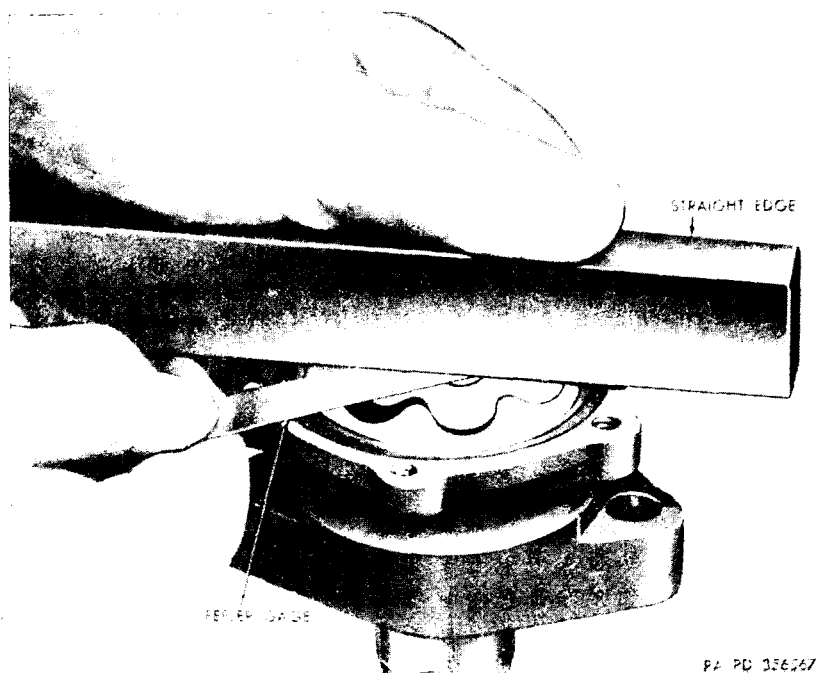

Figure 74. Checking inner and outer rotor clearance to cover.
g. Checking Inner and Outer Rotor Clearance (fig. 74) to Cover. With both inner and outer rotors in position, place a straightedge across pump body between bolt holes. With a feeler gage, check clearance between rotor surface and straightedge. If clearance exceeds repair and rebuild standards (par. 72), replace pump body.